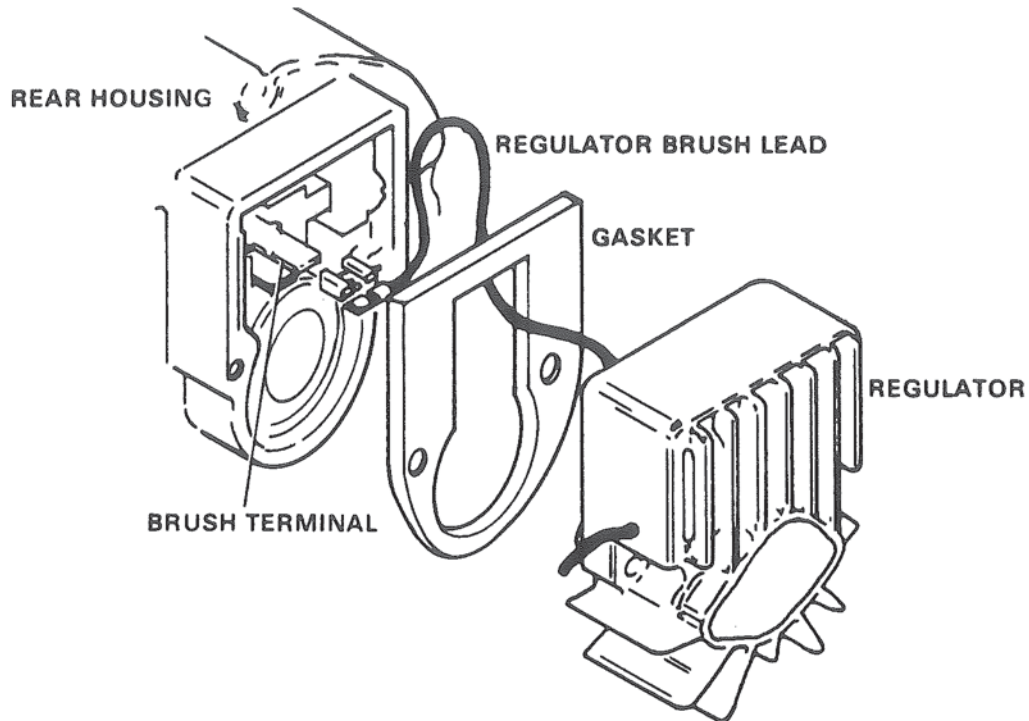

Figure 23. Installing Voltage Regulator.
11. Connect brush lead to brush terminal and install felt seal between regulator and rear housing. Figure 23.